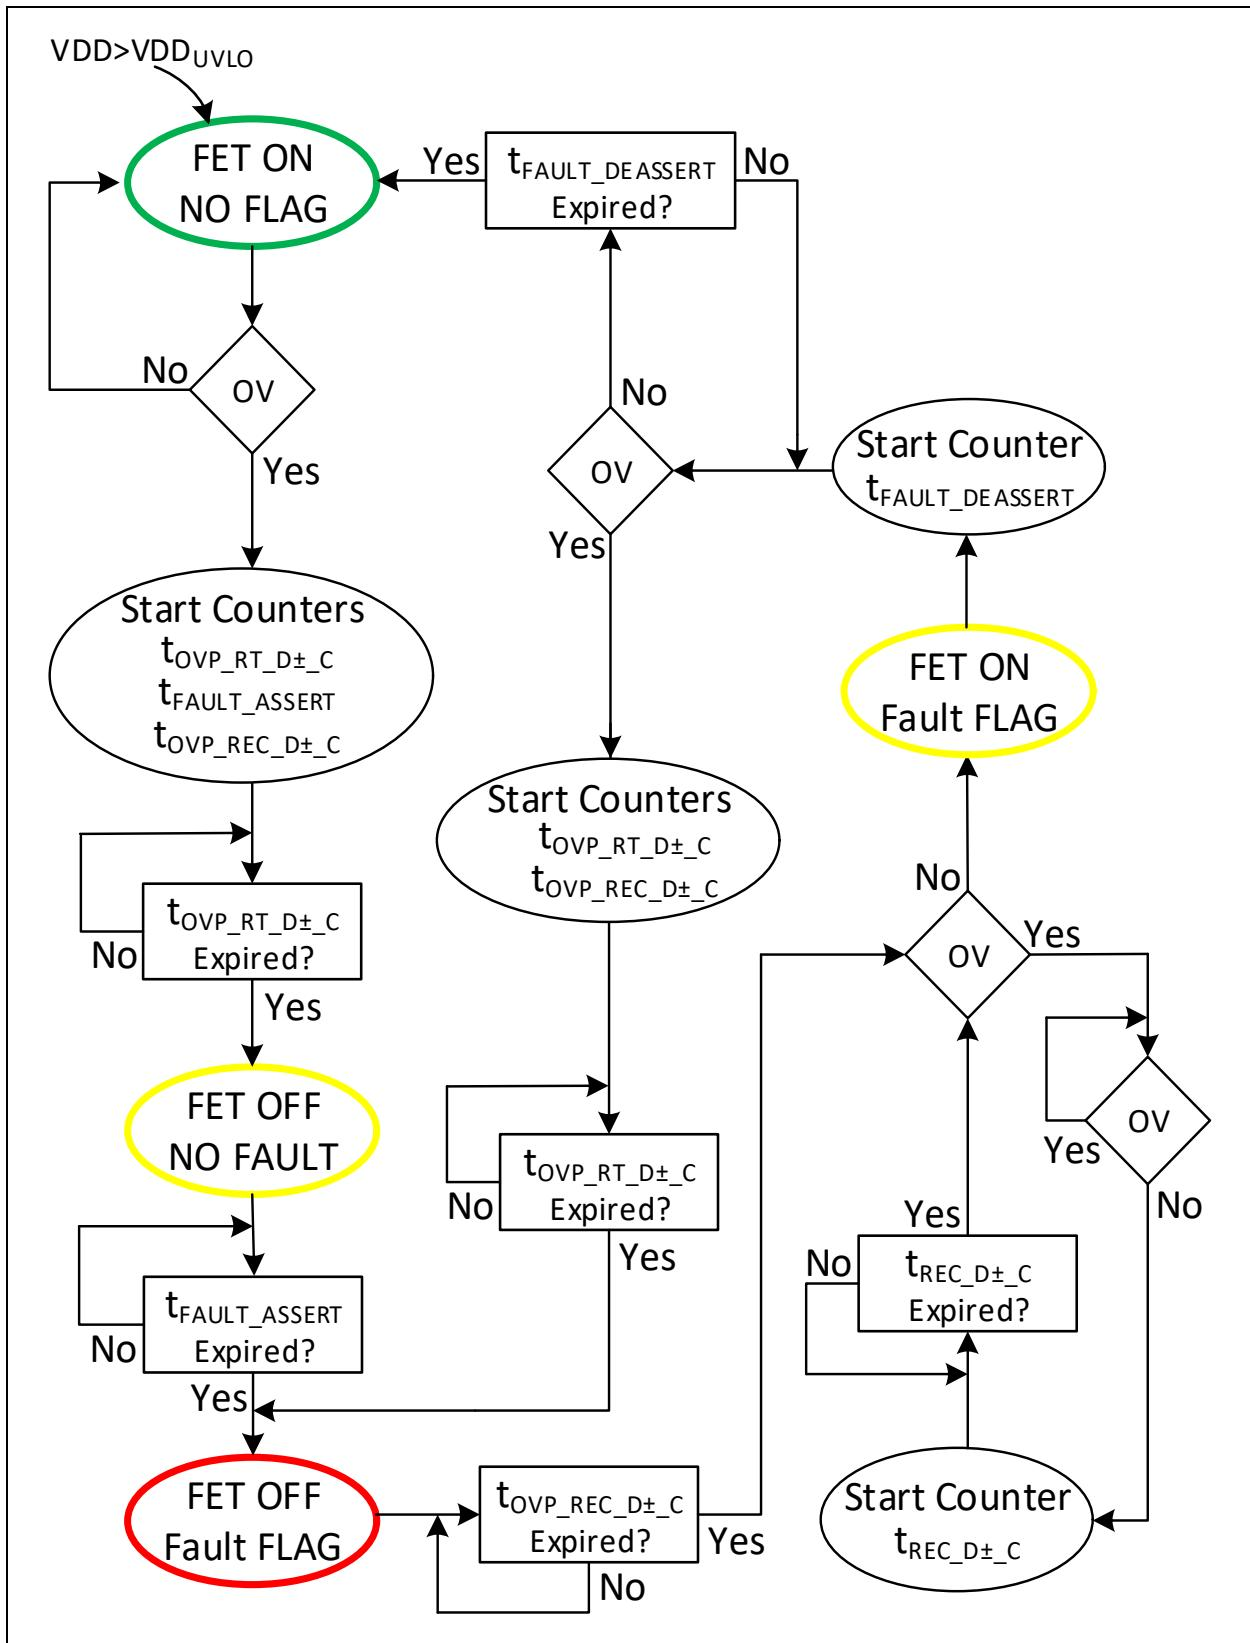

FIGURE 1-7: D+, D- Fault Flow Chart.
- Ovvovoltage (see Figure 1-7 for D+, D- example)